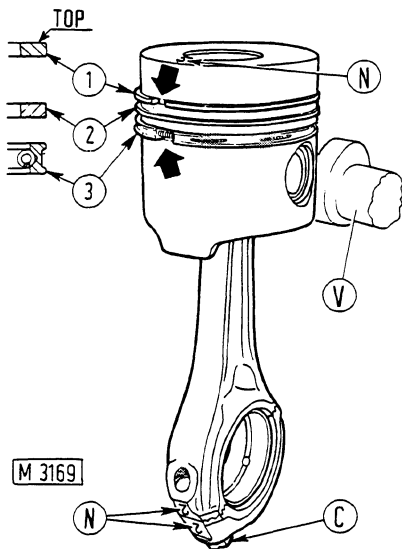

Fig. 33 - Correct piston-rod assembly.
Be sure numbers stamped on connecting rods (fig. 33) correspond with respective cylinders and are on the side opposite the camshaft (V).